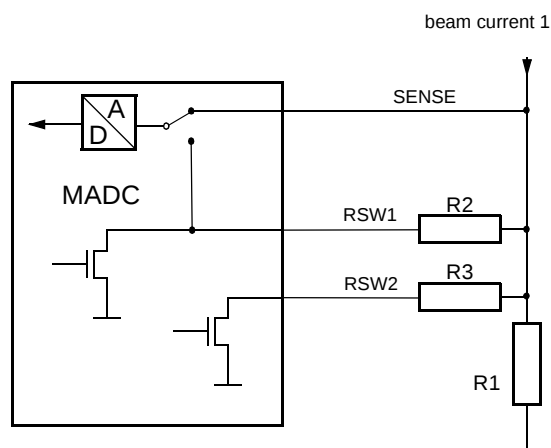

Fig. 2-1: MADC range switch
The Beam Current Limiter carries out gain controlling of RGB contrast (drive coefficients) and brightness in a recursive loop. It works on both the digital YUV input and the inserted analog RGB signals by using the SENSE for the beam current measurement. The BCL uses a filter to average the beam current during the active picture resulting in a 12-bit resolution with approximately 4 kHz bandwidth. During the active picture, the measurement range is selected with active range select 1&2 outputs (RSW1 and RSW2) connecting R2 in parallel to R3 and R1 (Fig. 2-1). These measurements are typically done at the summation point of the picture tube cathode currents.
1. Adjustment of the measurement resistor (R1 see Fig. 2-1) for the cutoff current: